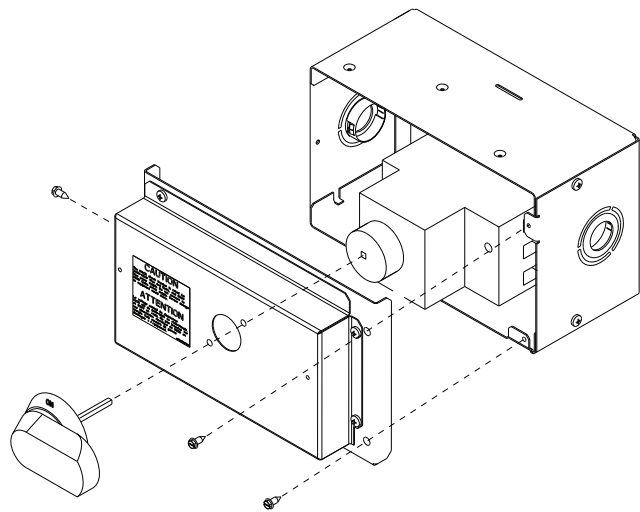

Fig. 38 — Handle and Shaft Assembly for HACR
2. Remove (3) cap head screws that secure the HACR enclosure – (2) on the face of the cover and (1) on the left side cover. See Fig. 38.
9. Secure the handle to the painted cover with (2) screws and lock washers supplied.
10. Engaging the shaft into the handle socket, re-install (3) cap head screws on the front cover.